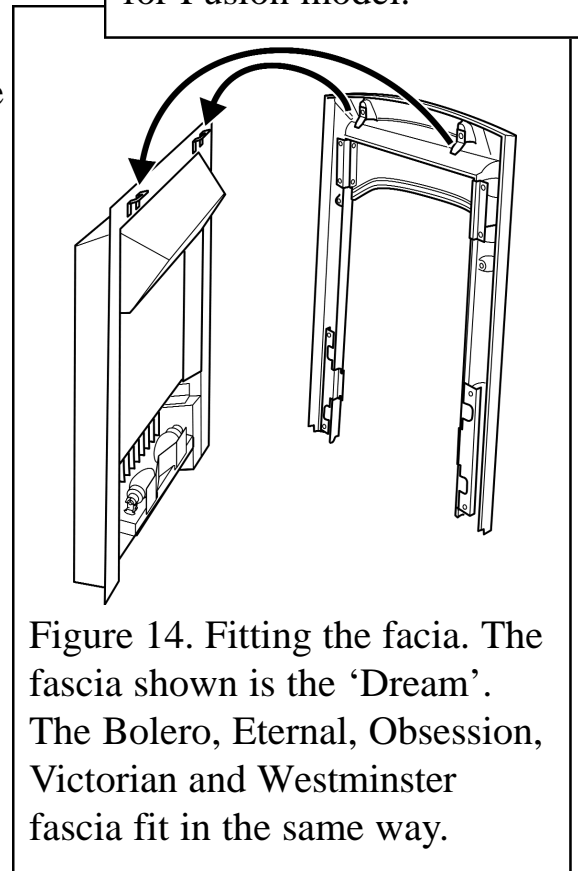

Figure 14. Fitting the fascia. The fascia shown is the 'Dream'. The Bolero, Eternal, Obsession, Victorian and Westminster fascia fit in the same way.
1. Hook the brackets on the rear of the fascia over the brackets on the heater (See figure 14).
1. Fit the fascia to the heater by hooking the brackets on the rear of the fascia over the brackets on the heater (See figure 14).